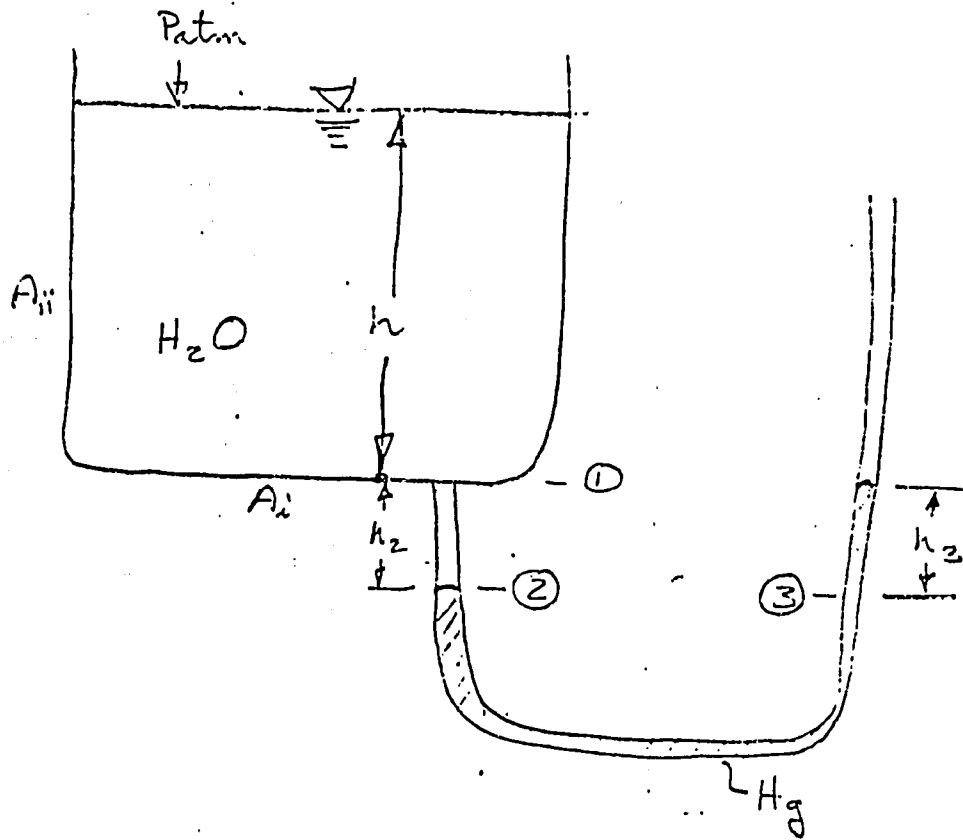

FIGURE 1-1.
In Figure 1-1, at a depth h beneath the water surface in the tank, the gauge pressure is just wh , where w is the unit weight of water, 62.4 lb/cu ft. or 1000 kg/cu m. The absolute pressure is gauge pressure plus atmospheric pressure.
Again in Figure 1-1, the pressure at (2) is $P_1 + wh_2$, or $w(h_1 + h_2)$. Since (2) and (3) are at the same elevation, $P_2 = P_3$. P_3 also equals $P_{atm} + wh_3$ where s is the specific gravity of mercury, 13.6.
The hydrostatic force on a plane area is equal to the hydrostatic pressure that exists at the centroid of the area, multiplied by the area; and the force acts in a direction normal to the plane. In Figure 1-1, the force on the bottom of the tank is $(P_{atm} + wy)A_j$, and acts downward. The force on the left wall of the tank is $(P_{atm} + wy/2)A_j$ and acts horizontally to the left.